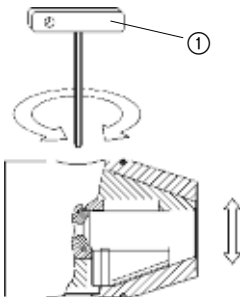

Fig. 1
Open the jaws to the biggest clamping diameter by means of the Allen-T-wrench ① counter clockwise (Fig. 1).